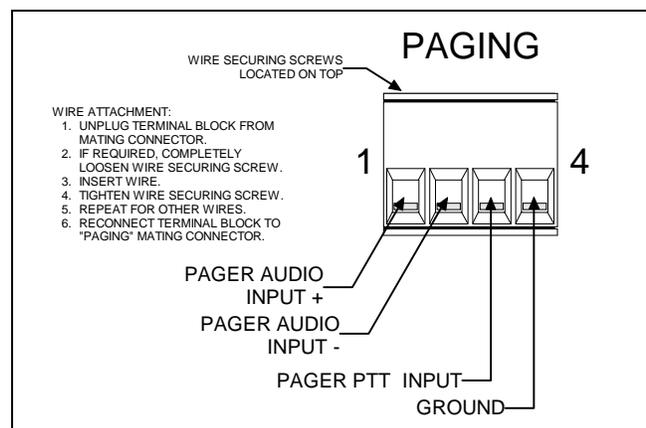

Figure 8 – Pager Inputs At Enhanced Audio Enclosure
Paging connections are located on a second removable screw-terminal terminal block on Enhanced Audio Enclosure's rear panel. A 600-ohm balanced line audio input and a PTT (page enable) input are included. As shown in Figure 8, this terminal block is labeled "PAGING".
- Connect the pager to the terminal block in accordance with the manufacturer's instructions, Figure 8 and Table 26. The audio terminals are isolated from ground. See the specifications page in LBI-39100 for audio signal input level specifications. If required, audio input level adjustment may be accomplished via a C3 Maestro note card.